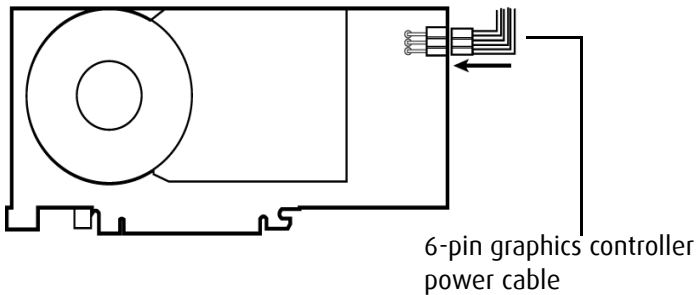

Figure 6: Power connection for the MXRT 5100, 7100, & 7300 controllers
10. Connect your BARCO CORONIS 5MP MAMMO Displays to the display controller(s) for your BARCO CORONIS 5MP MAMMO Display System using the cables supplied. Make sure all cables are securely connected before turning on your system. Figures 6 - 12 show the types of connections are available: